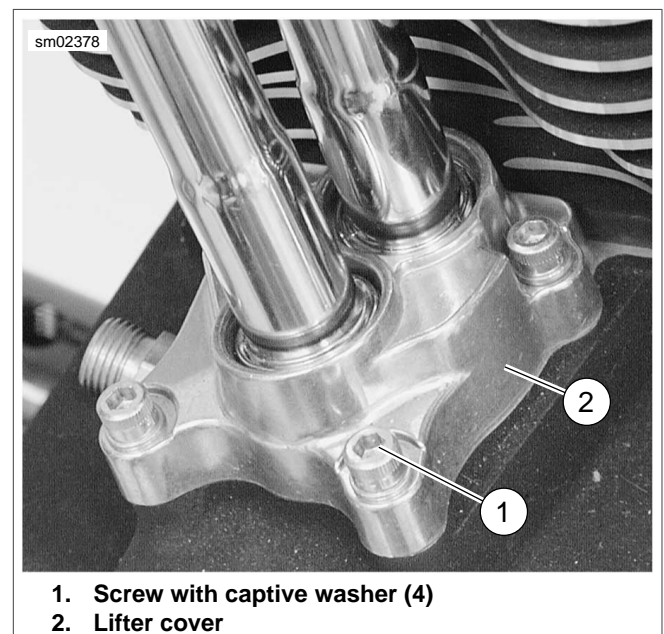
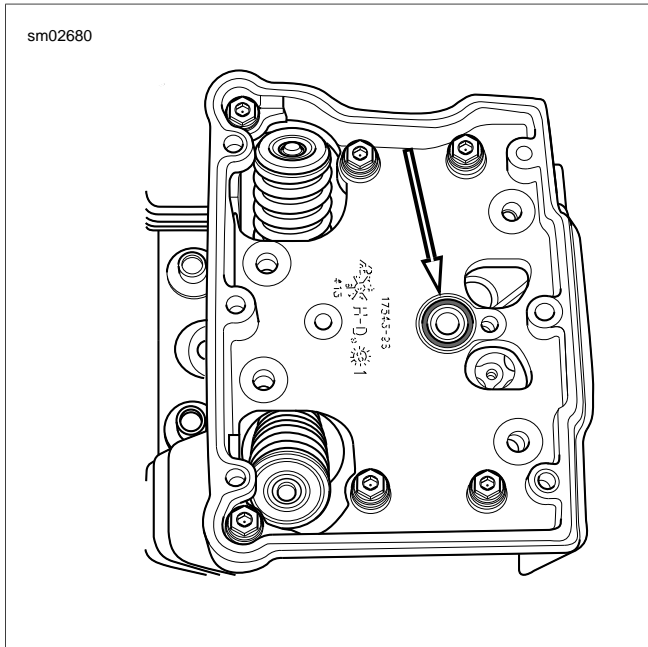

Figure 3-18. Lifter Cover
Figure 3-19. Breather Baffle Hole O-Ring
2. See Figure 3-18. Remove lifter covers.
- a. Using a crosswise pattern, remove four screws with captive washers (1) to release the lifter cover (2).
4. See Figure 3-19. Remove and discard o-ring from groove around breather baffle hole in rocker housing.